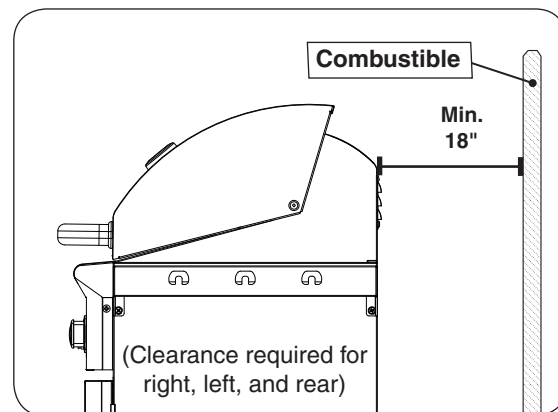

Fig. 11-3 Clearance 'C' Diagram
- The grill must have a minimum of 18" right, left, and rear clearance from any combustible wall (see Fig. 11-3).